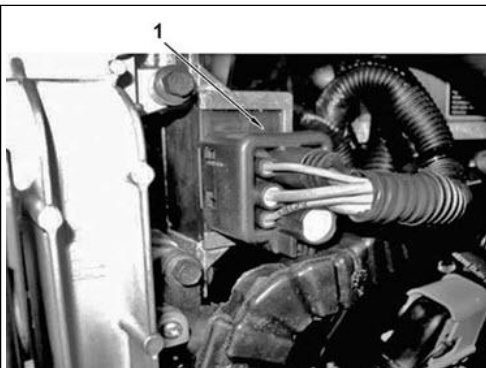

**Figure 16 - Air-line to ECM Bracket**
19. Install two fir-tree type push pin connectors that secure air-line to top of ECM bracket (Figure 16, Item 1).